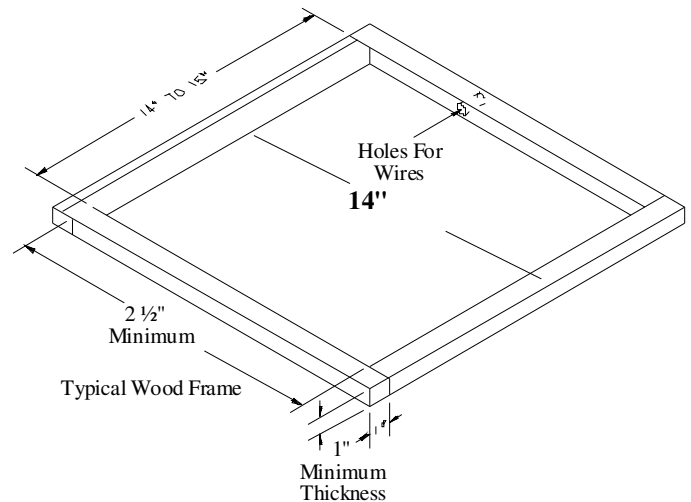

**FIGURE 1**
3. Examine the roof opening. If the opening is smaller than 14” x 14”, the opening must be enlarged. If the opening exceeds 15” x 15”, a mounting frame must be field fabricated to reduce the opening size (See Figure 1).
- B. If a roof vent opening is not used, a new opening (See Figure 1) will have to be cut into the vehicle roof. A matching opening will also have to be cut into the interior vehicle ceiling. Be careful when cutting the ceiling opening. If the ceiling opening is carpeted, snagging could occur. After the opening in the roof and interior ceiling are the correct size, a framed support structure must be provided between exterior roof top and interior ceiling. The reinforced framed structure must provide the following guidelines:
The 47000 series Coleman-Mach 8 air conditioner requires that the spacing from the vehicle roof top to the interior ceiling be no less than 1”. A typical support frame is shown in Figure 1.